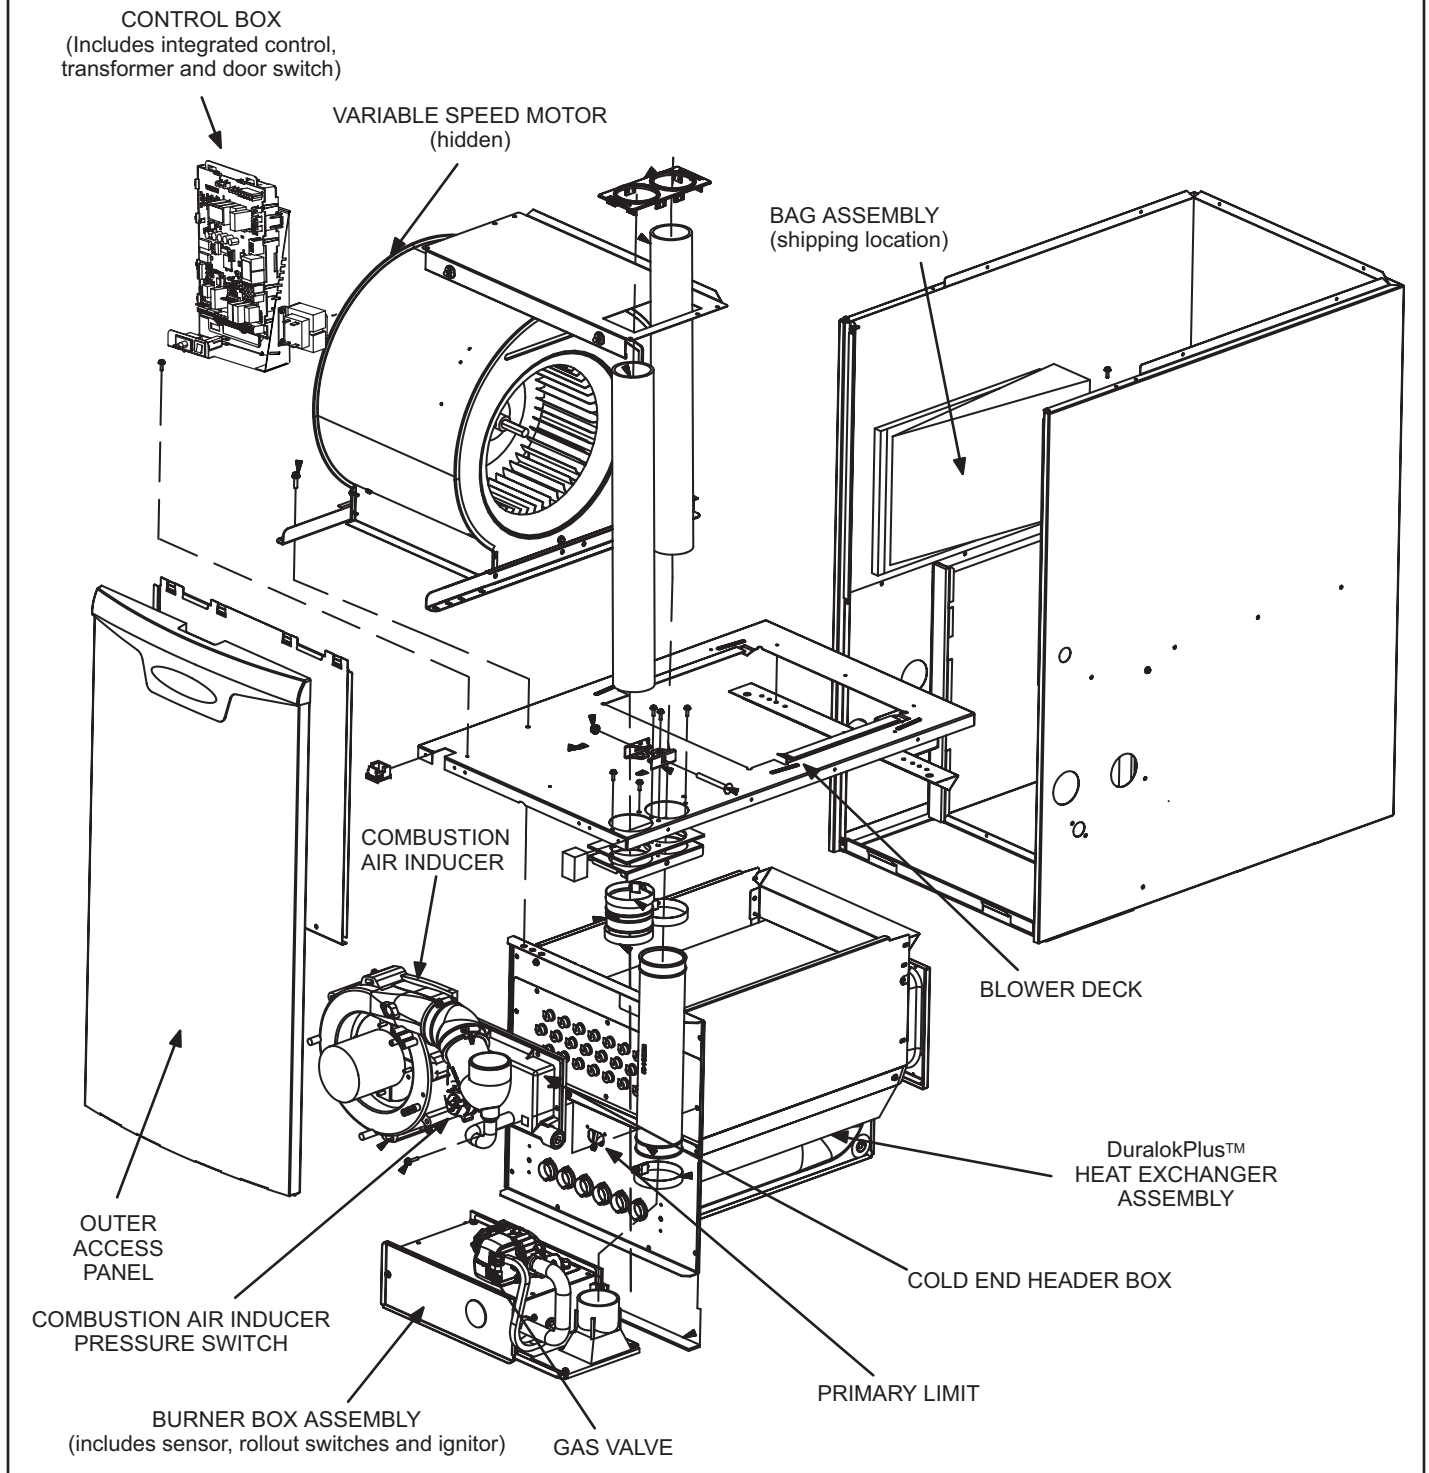
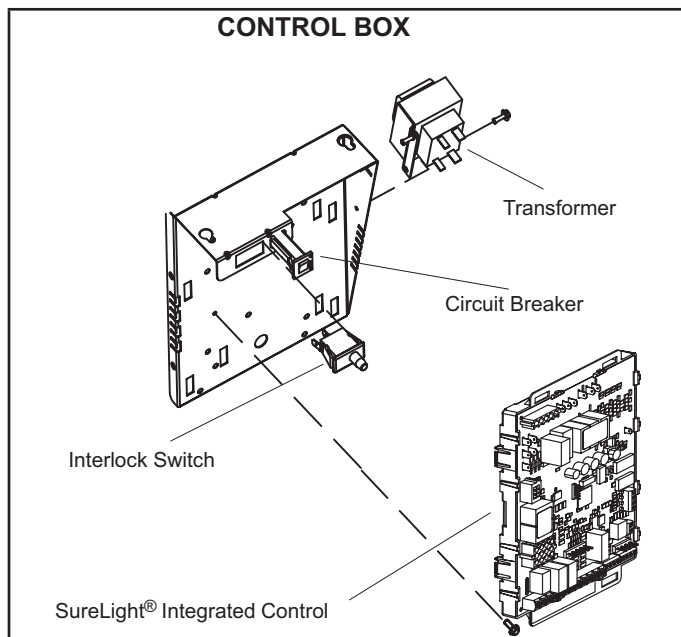

FIGURE 1
FIGURE 2
EL296DFV(X) unit components are shown in FIGURE 1. The gas valve, combustion air inducer and burners can be accessed by removing the access panel. Electrical components are in the control box (FIGURE 2) found in the blower section.